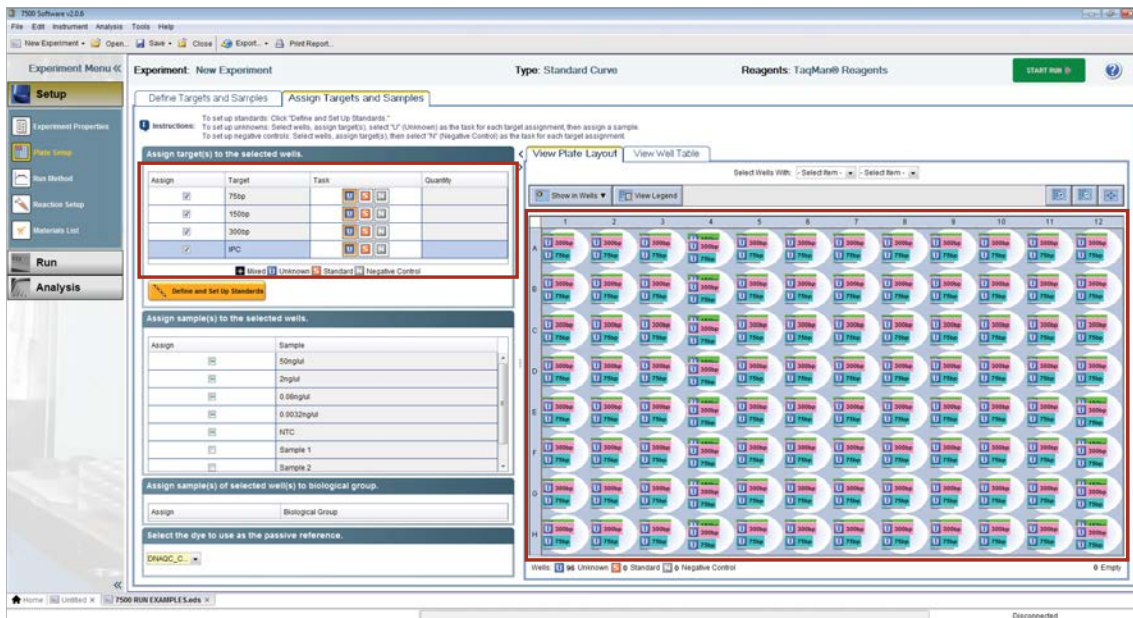

Figure 3. Assigning targets to wells.
- Select the “Assign Targets and Samples” tab (Figure 3), and highlight the wells in use on the View Plate Layout tab by dragging the pointer over the plate wells. Assign all four targets to the selected wells by selecting the boxes under “Assign”.